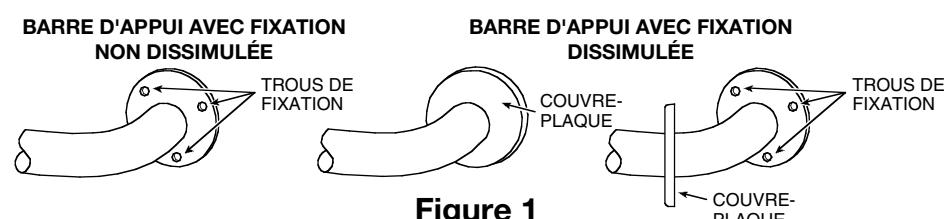
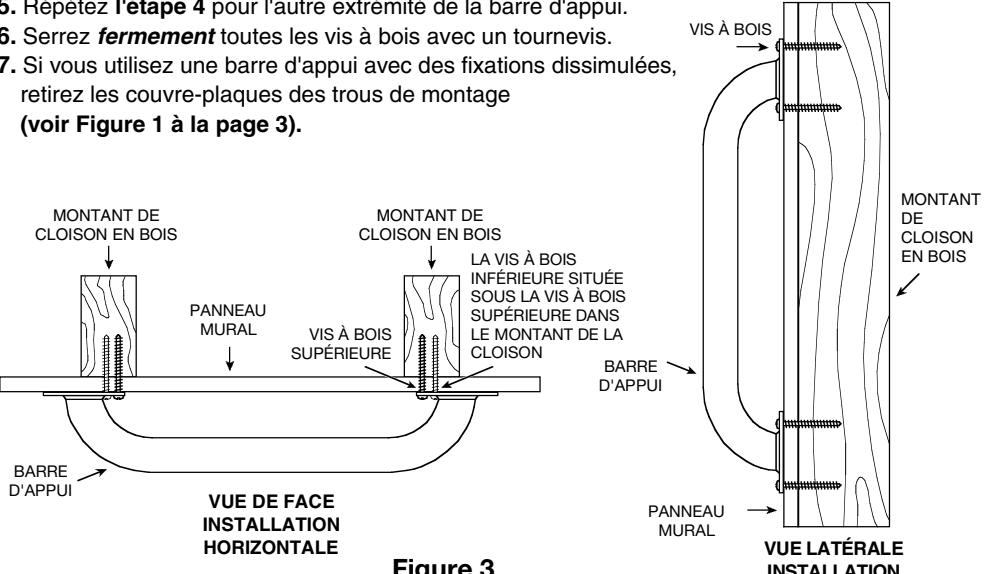

Figure 1
Figure 3
1. Remove the Grab Bar and parts from the package. If concealed mount Grab Bar is used, move cover plates away from mounting holes (see Figure 1).
TO INSTALL INTO WOOD WALL STUDS: 1. Put on safety glasses before starting. 2. Use the 3/8-inch power drill and 7/64-inch drill bit to drill all holes into the wall and wood wall studs at the marked positions. NOTE: If installing Grab Bar over ceramic tiles, the 1/4-inch carbide tip drill bit will be needed for drilling through the tile, in order to prevent damage to the tiles. Drill pilot holes through the tiles by using a 1/4-inch carbide tip drill bit. Once a hole has been drilled through the ceramic tiles, use the 7/64-inch drill bit to drill a pilot hole in the wood wall stud itself. 3. Place Grab Bar on wall, aligning mounting holes with the holes in the wall. 4. Insert the wood screws provided into one end of the Grab Bar. Screw into wall and wall stud (HAND TIGHTEN ONLY) (see Figure 3). 5. Repeat Step 4 for opposite end of the Grab Bar. 6. Securely tighten all mounting wood screws with a screwdriver. 7. If concealed mount Grab Bar is used, move cover plates over mounting holes and firmly press against the wall (see Figure 1 on page 1).
- Sortez la barre d'appui et les pièces du paquet. Si vous utilisez une barre d'appui avec des fixations dissimulées, retirez les couvre-plaques des trous de montage (voir Figure 1).
- Insérez les vis à bois fournies à l'une des extrémités de la barre d'appui. Vissez dans le mur et le montant de cloison (**SERREZ FERMEMENT À LA MAIN SEULEMENT**) (voir Figure 3).
- Si vous utilisez une barre d'appui avec des fixations dissimulées, retirez les couvre-plaques des trous de montage (voir Figure 1 à la page 3).